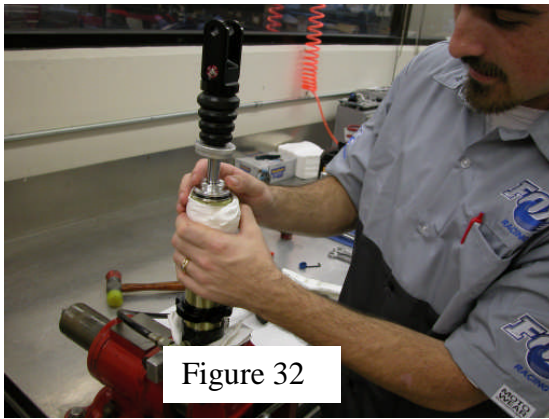
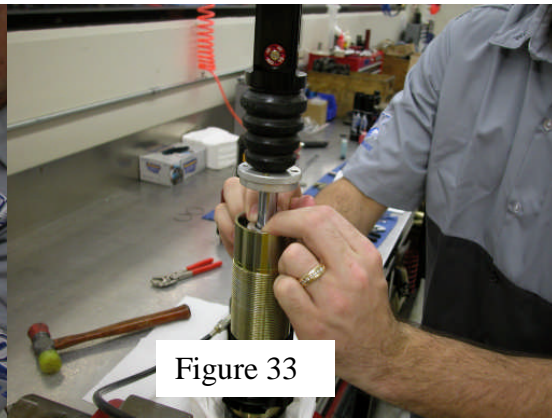

Figure 32
Figure 33
49. Hold the shaft eyelet with one hand. With other hand, slide the bearing assembly down the shaft until contact with oil is made. Find the bleed port in bearing assembly, and position it away from your face and body. With one hand, very slowly push the bearing assembly into body tube. Be sure to have a small container in your other hand to catch the excess oil as it flows out of the bleed port in the bearing. Do not allow the shaft to move as you push the bearing in until the bearing makes contact with the piston assembly. Then push bearing and shaft assembly into body tube until it stops at the external o-ring of the bearing assembly. **(Figure 32)** With one hand continue applying pressure to the bearing assembly. With other hand, set the compression adjustment knob full out. As you do this, the bearing and shaft assembly should push further into the body tube. Push the bearing and shaft assembly into the body tube until the retaining ring groove is exposed. **(Figure 33)** Install the wire-retaining ring, and check to make sure retaining ring is properly seated.